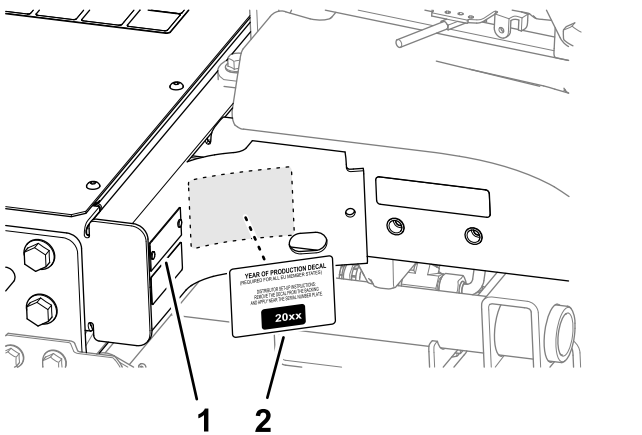

Figure 36
1. Wipe clean the left frame near the model/serial plate with alcohol, and allow the frame to dry (Figure 36).
2. Remove the backing and apply the Year of Production decal to the frame near the serial plate as shown in Figure 36.